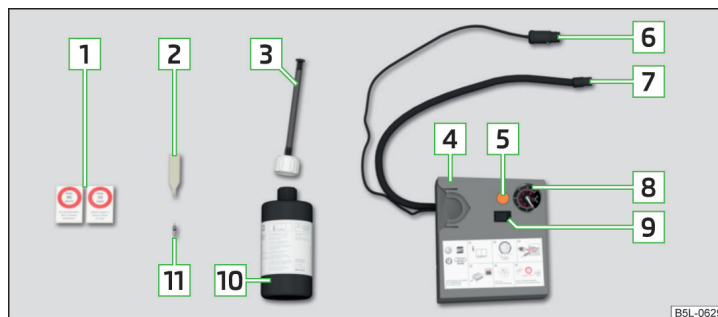

Fig. 216 Principle sketch: Components of the breakdown kit
Components of the kit » Fig. 216
- Stick the sticker **1** » Fig. 216 on page 213 on the dashboard in the driver's field of view.
- Forcefully shake the tyre inflator bottle **10** » Fig. 216 on page 213 back and forth several times.
- Screw the air compressor tyre inflation hose **7** » Fig. 216 on page 213 firmly onto the tyre valve.